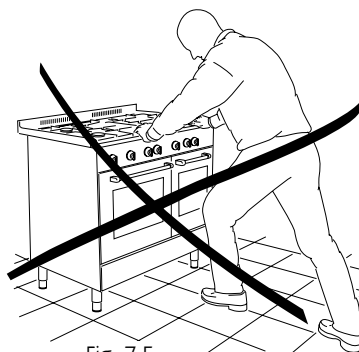

Fig. 7.5
**When moving cooker to its final position DO NOT DRAG** (fig. 7.5).